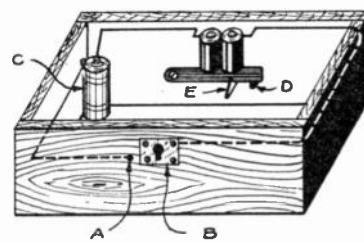

FIG 3
Fig. 3 is a diagram of the assembled motor.
The illustration can be easily followed. Fig. 1 shows the completed rheostat. Fig. 2 is a diagram of the mounting for the carbon (A), which slides in a groove and is used for finer adjustment. Fig. 3 shows how the copper strips and the dry-cell binding-posts are fixed to connect the carbons. Wires which are connected to these strips by the binding-posts pass through holes in the base and then to the contact points. They thus serve to hold the carbons in place as well as to act as conductors.